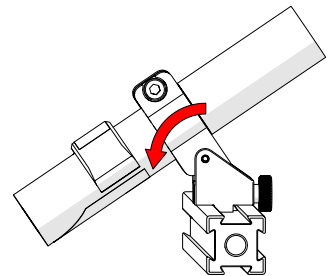

Fig. 135 - Aim guide
3. Adjust the optical guide's friction pivot to direct the laser beam as required (Fig. 135).